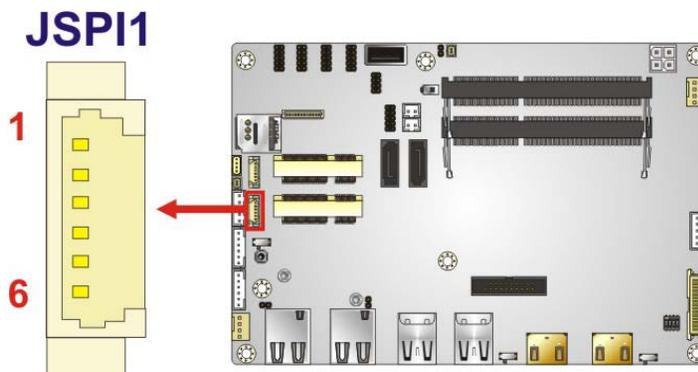

Figure 4-25: SPI Flash Connector Location
- CN Location: See **Figure 4-25**